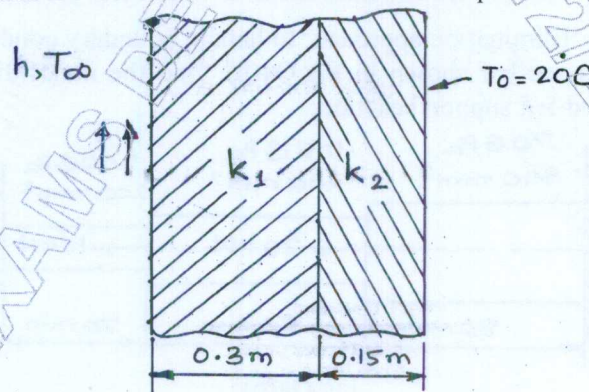

Fig.Q8(b)
b. A composite wall consists of two materials is as shown in Fig.Q8(b). The outer temperature is $T_0 = 20^\circ\text{C}$. Convection heat transfer takes place on the inner surface of the wall with $T_\infty = 800^\circ\text{C}$ and $h = 25 \text{ W/m}^2\text{-}^\circ\text{C}$. Determine the temperature distribution in the wall.